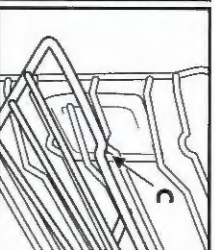

Fig. 3
3. Return the wire shelf to the horizontal position and push it in fully to "C" (fig. 3).